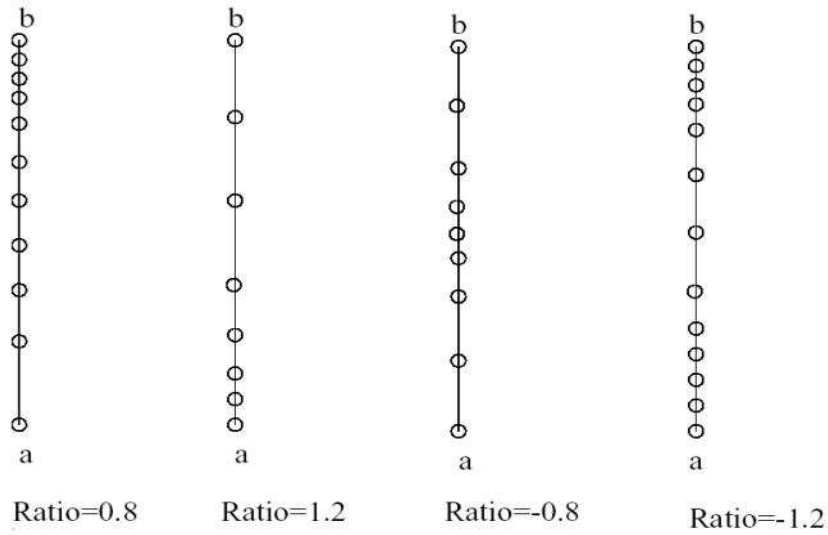

Figure 2.19: Effects of different ratio on putting mesh points on an edge (a b).
- **mesh_ratio** is the ratio of the adjacent mesh interval. If it is unity (default), the mesh is uniform. If it is greater than 1, the mesh interval increases with distance. If it is less than 1, the mesh interval decreases with distance. If it is negative, the mesh obeys the absolute value over the first half of the distance and the other half is symmetric to the first half. A schematic diagram illustrating the effect of various ratios is given in Fig. 2.19.